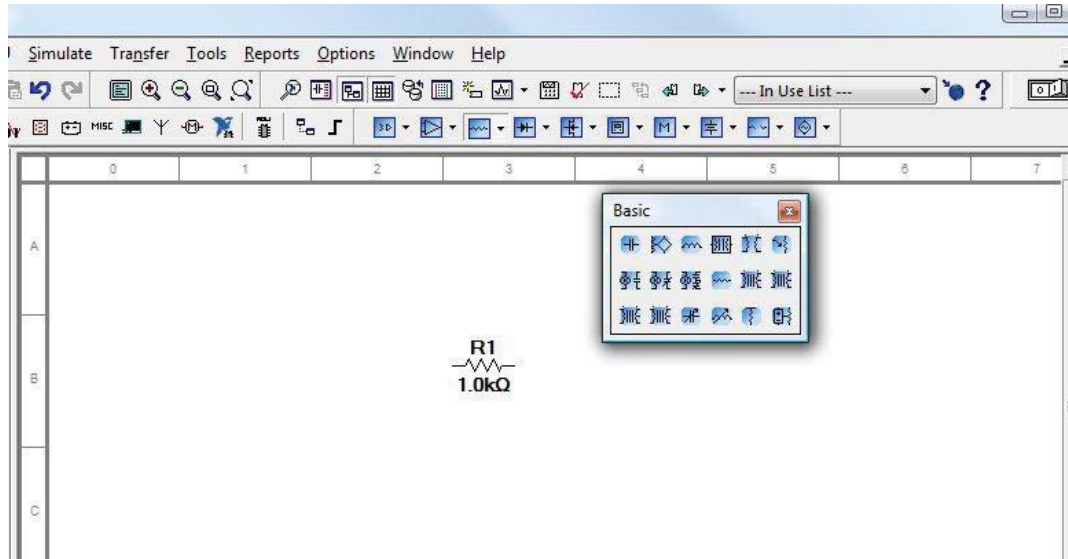

Figure 8
1. Click on the Resistor parts bin with your left mouse button. Left click on the resistor symbol and release. Move your mouse pointer to the workspace area. Then left click the mouse button. This places a resistor in your workspace. You should see Figure 8.